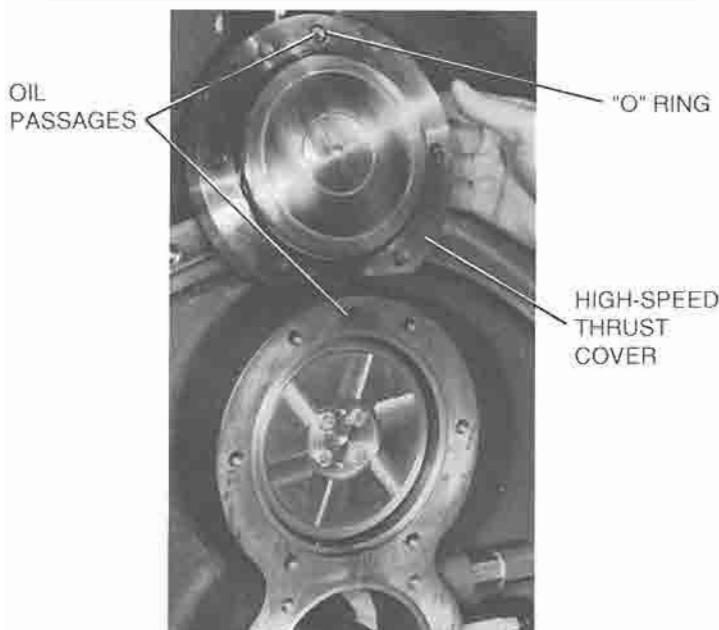

FIG. 26 – HIGH-SPEED THRUST COVER
1. Remove the cap screws holding the high-speed thrust cover and remove the high-speed thrust cover. (See Fig. 26) Note alignment of oil passages. Also note "O" ring at oil passage on cover.